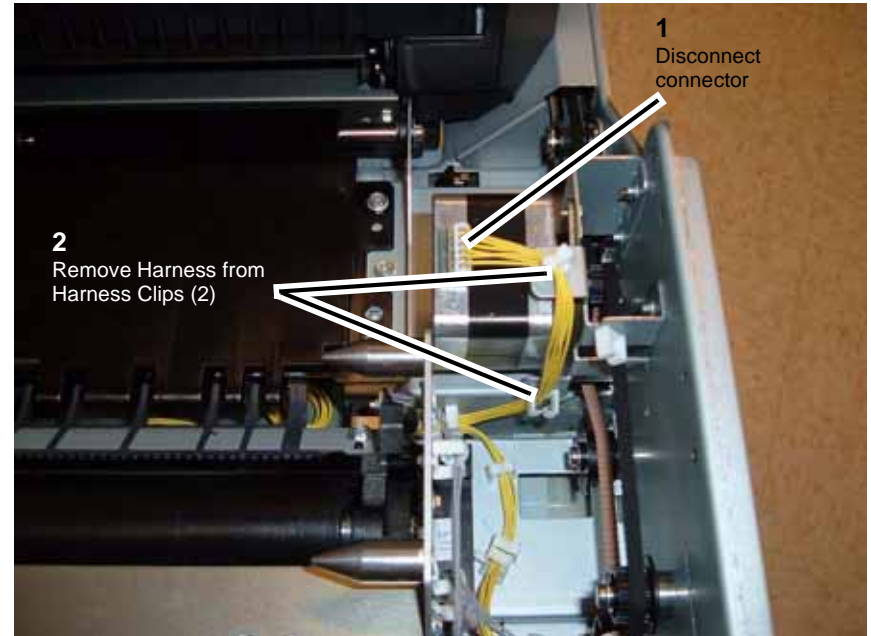

Figure 6 Disconnecting the Bypass Motor Harness
7. Disconnect the Bypass Motor Harness (Figure 6).